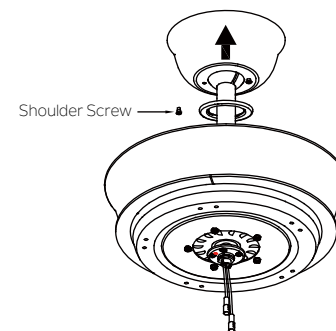

Fig.16
Step 2. Assemble canopy by rotating key slot in canopy over shoulder screw in mounting bracket. Tighten shoulder screw. Fully assemble and tighten second shoulder screw that was previously removed. (Fig. 16)